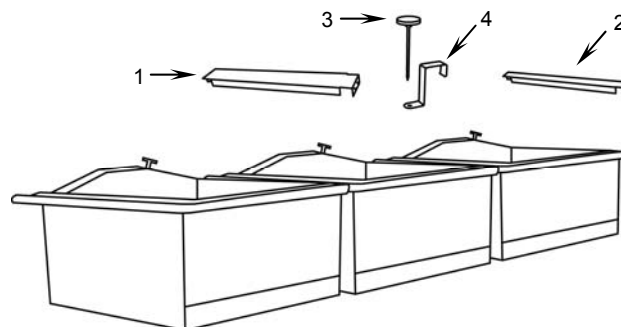

Figure 38. Heat Shield and Thermometer Assembly Removal.
- a. Remove sink coupler heat shields (**Figure 38, Item 1**) and the sink edge heat shield (**Figure 38, Item 2**).
- b. Remove the thermometers (**Figure 38, Item 3**) and thermometer brackets (**Figure 38, Item 4**) from the sinks.